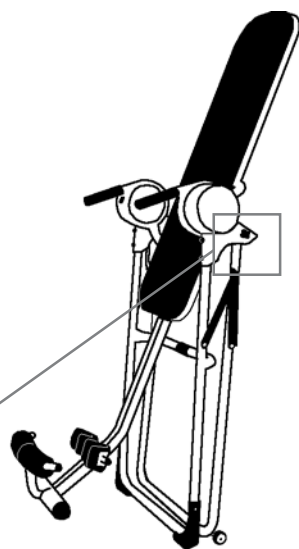

Figure 10
- From the standing position, prop the table onto the wheels at the rear of the A-frame and push or pull the table to a storage location. (See Figure 10)